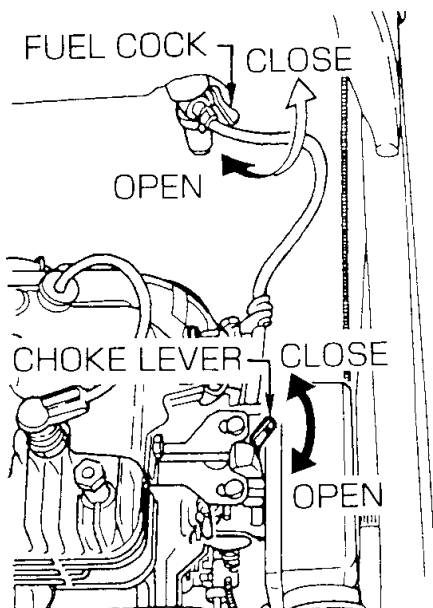
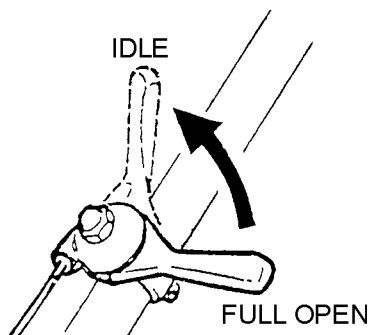
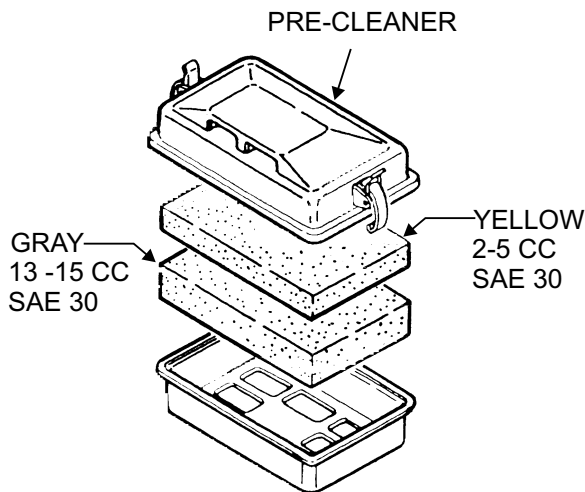

Figure 5. Fuel Cock and Choke Lever
Figure 9. Throttle Lever
Figure 10. Pre-Cleaner
1. Open the fuel shut-off valve by moving the **fuel cock** lever to the **open** position (Figure 5).
3. Close the choke lever (Figure 5) and move the throttle lever (Figure 9) to the "Full Open" position. Turning the choke lever 90 degrees clockwise closes the choke. In cold weather, start the unit with choke fully closed. In warm weather or when the engine is warm, the unit can be started with choke halfway or completely open.
5. If engine fails to start, move the choke lever (Figure 5) to the half open position to avoid flooding.
1. To start the rammer tamping action, move the throttle lever (Figure 10) quickly from **IDLE** (close) to the **FULL OPEN** position. **DO NOT** move the throttle lever slowly as this may cause damage to the clutch or spring.
Make sure that the throttle lever is moved to the **FULL OPEN** position (Figure 9). Operating the rammer at less than full speeds can result in damage to the clutch springs or foot
1. Move throttle lever quickly from the **FULL OPEN** to **IDLE** position (Figure 10) and run the engine for three minutes at low speed. After the engine **cools**, turn the engine *start/stop* switch to the "**OFF**" position (Figure 5) until engine comes to a complete stop.
2. Close the fuel shut-off valve by moving the fuel cock lever to the **CLOSED** position. See Figure 5
- Remove the element from the pre-cleaner (Figure 10) at the top of the crankcase (body side) and clean it with cleaning oil (kerosene).